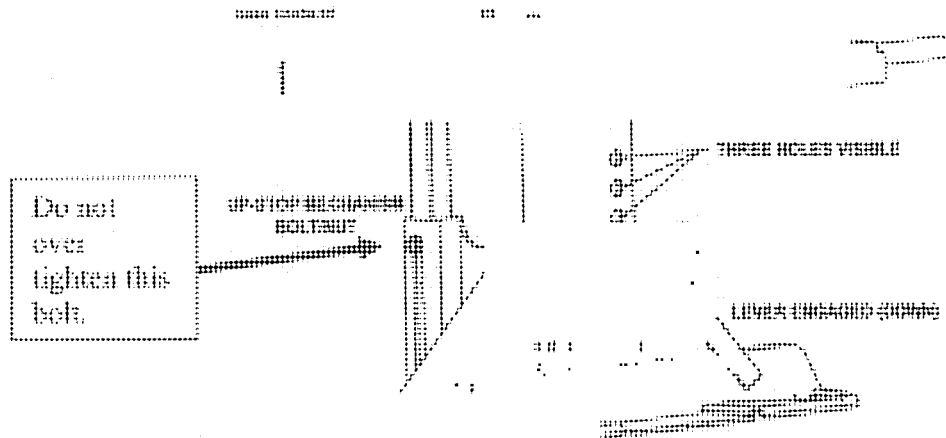

FIGURE 24.
- Verify that the seat is in its top position (3 holes visible in seat base cylinder). See FIGURE 24. If the seat is equipped with an up-stop mechanism, install the limiting bolt and nut that were removed at the beginning of this procedure. Do not over tighten the nut, or the seat will not move up and down. The limiting bolt will prevent the seat from being raised beyond its top position.
12. With the seat in its top position, adjust the seat-to-floor leathers to a tight condition. See FIGURE 24. If continuing to Repair Procedure 4, this step is not necessary.